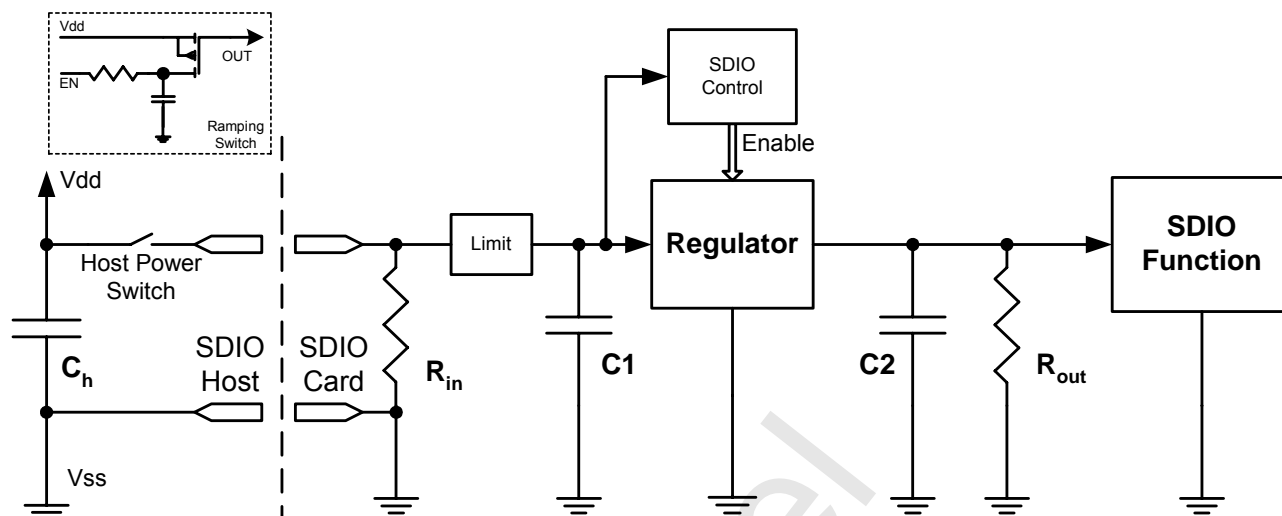

Figure 15-1 SDIO Inrush Current
1. The maximum initial load (i.e. upon power-up) that can be placed in an SDIO card is 10 μ F in parallel with 220 Ω . The 10 μ F capacitance represents all bypass capacitor(s) directly connected across the V_{dd} lines in the card common area or function(s) plus any capacitive effects visible through any regulators in the card that are enabled at power-up. This is represented in Figure 15-1 by C1. The 220 Ω resistance represents the maximum current (15 mA) drawn by the card during connect. This is shown as R_{in} .
3. The hosts' V_{dd} power lines shall be able to withstand a hot insertion of the above loads without causing an upset of the hosts' operation. The host may achieve this tolerance by many methods. For example, a soft-start reduces the inrush current to the SDIO card on power-up. Additionally, a large capacitor on the V_{dd} lines (shown as Ch in Figure 15-1) can supply the needed inrush current. Standard bypass methods should be used to minimize inductance and resistance between the bypass capacitors and the connectors to reduce droop. The bypass capacitors themselves should have a low dissipation factor to allow decoupling at higher frequencies.
2. Maximum capacitive load changes shall not exceed 10 μ F when an internal regulator is enabled or disabled. This is shown as C2 in Figure 15-1.
Figure 15-1 Shows the various components that contribute to inrush current. In this diagram, the host has an optional power switch so that the card is inserted into a socket without power applied (i.e. a cold socket). The initial load is defined by C_1 and R_{in} where C_1 is the sum of all capacitance from V_{dd} to ground on the input side of the regulator and R_{in} represents the DC load of the regulator and an the SDIO control circuits. The Host can control the timing of the application of power to the SDIO card by using the optional host power switch. If the host does not include a power switch, then the inrush current will begin to flow once the card is inserted and contact is made to the V_{dd} and V_{ss} pins. In this diagram, C_1 has a maximum value of 10uF and the R_{in} equivalent resistance is 220Ω minimum. The host shall be designed so that the insertion of a SDIO card that meets the input capacitance and resistance values defined above shall not be damaged or have it's operation disrupted (i.e. a reset). On card insertion or enabling of the host power switch, charge will rapidly flow from the charge host capacitor (C_H) to the discharged input capacitor on the card (C_1). The charge will transfer and the voltage on the host V_{dd} line will drop in proportion to the ratio of C_H to C_1 . If $C_H = C_1$, the resulting V_{dd} droop will be 50%. If the host must limit the V_{dd} droop to 10%, then C_H should be 10 times the value of C_1 (100uF). Alternately, the host may limit the inrush current by using a semiconductor switch such as a FET for the host power switch. This is shown in Figure 15-1 as the ramping switch. By using a RC network to drive the FET gate, the V_{dd} applied to the card will be a ramp, rather than a near-instantaneous step. This reduced rise time will greatly reduce the inrush current, allowing a smaller C_H value to be used.
If the design of a SDIO card requires a input capacitance (C_1) larger than the 10uF maximum value, then some sort of limit is required as shown as the Limit block in Figure 15-1. This limit function reduces the inrush current to a value equal to or less than the current inrush of a 10uF capacitor. This limit device could be a ramping switch similar to the one shown for the host.
Figure 15-1 also illustrates the use of a secondary voltage regulator (or switch) to power the SDIO function. Since the enabling of the power to the function may cause a secondary current surge to charge C_2 and since the host may not have control of the timing of this secondary surge, it is entirely the responsibility of the SDIO card to limit the effect on the host V_{dd} due to these secondary surges. Again, a ramping type switch is a possible solution as is a "soft start" regulator. The actual design is left to the SDIO card maker.